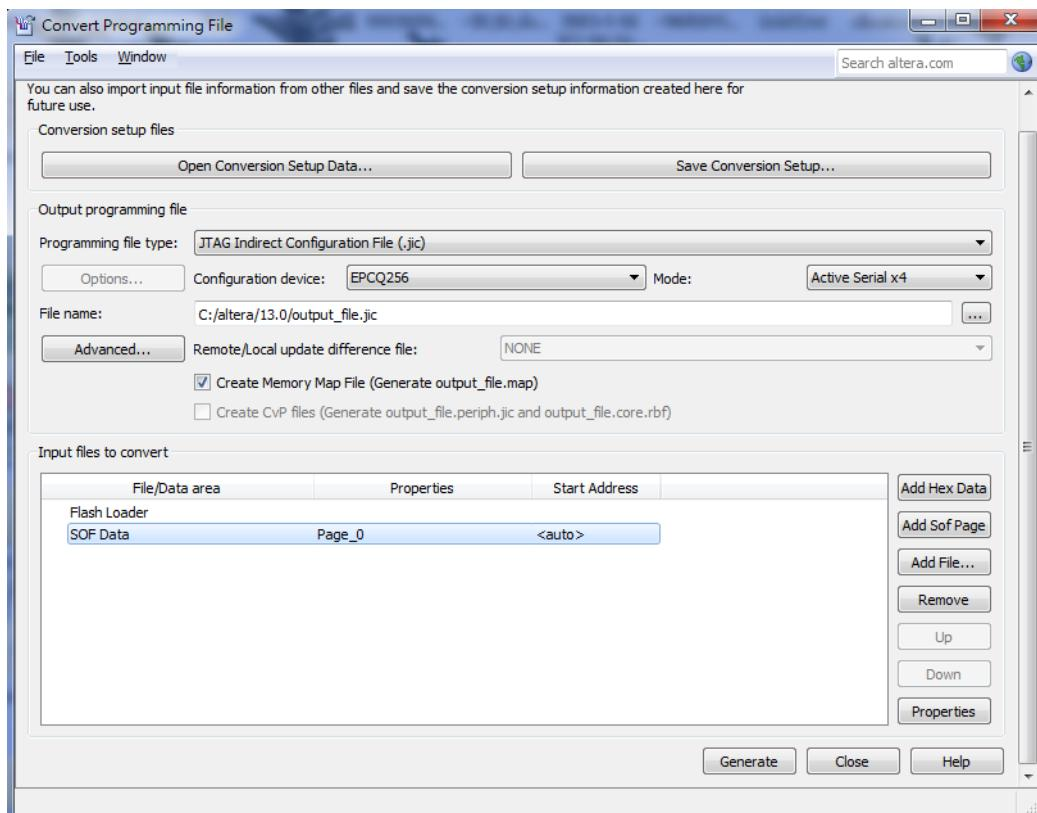

Figure 7-2. Convert Programming Files Dialog Box
6. Highlight the SOF data in the Input files to convert section. See Figure 7-2.